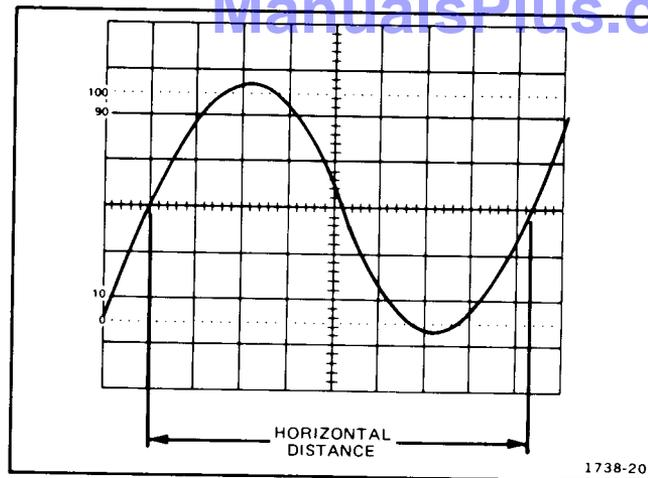

Figure 37. Time duration.
2. Set the TIME/DIV switch for a display of at least one complete period of the waveform to be measured. Position the display to place the time-measurement points on the center horizontal graticule line (see Figure 37).
EXAMPLE: The distance between the time-measurement points, illustrated in Figure 37, is 8.3 divisions, and the TIME/DIV switch is set to 2 ms. A magnification factor of 1 is used.
EXAMPLE: The signal shown in Figure 37 has a time duration of 16.6 ms.